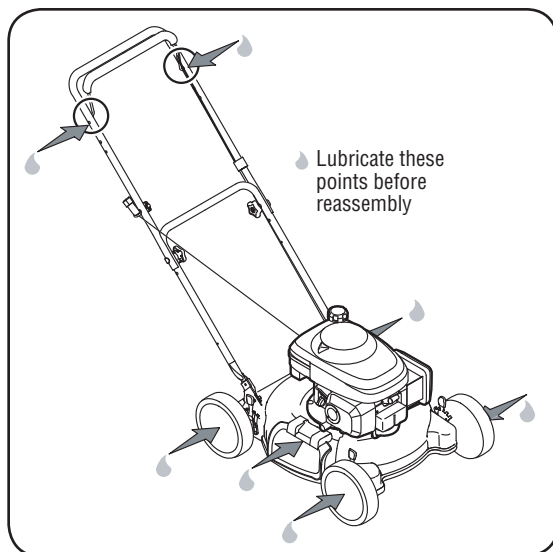

Figure 10
1. Lubricate the pivot points on the blade control handle at least once a season with light oil. The blade control must operate freely in both directions. See Figure 10.
3. Lubricate the torsion spring and pivot point periodically with light oil to prevent rust. See Figure 10.